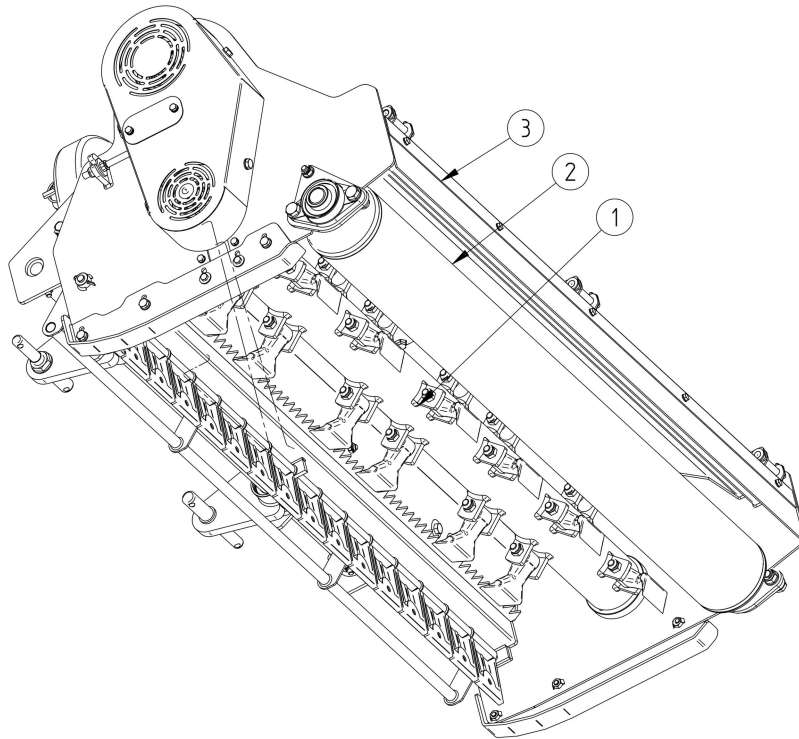

Fig 8. General machine construction
The working shaft in the ECO shredder is equipped with shredding parts in the form of flail hammers (Figure 8). The set consists of an M14x90 bolt (1), spacers (2), flail hammer (3) and an M14 nut (4).